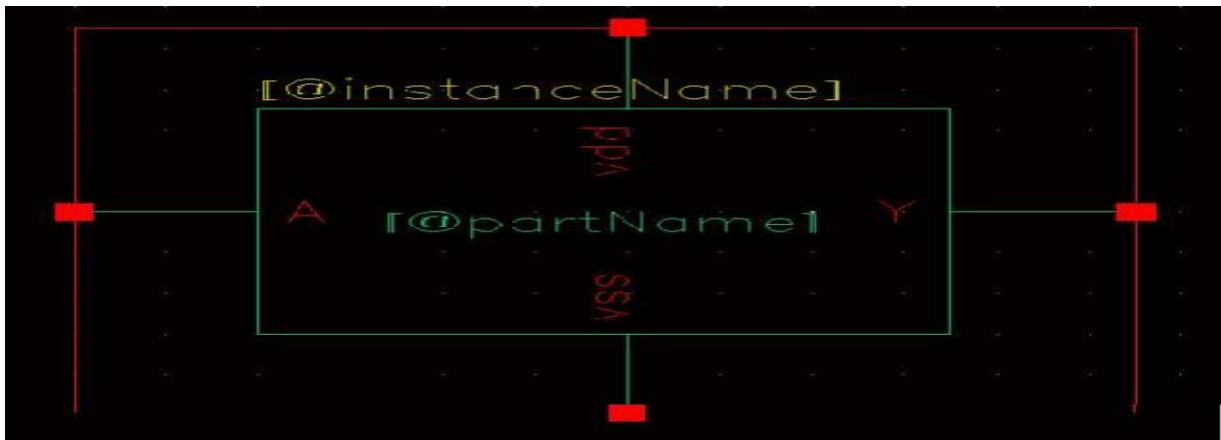

Figure 1.9: Inverter symbol
6. A new window displays an automatically created Inverter symbol as shown in figure 1.9.